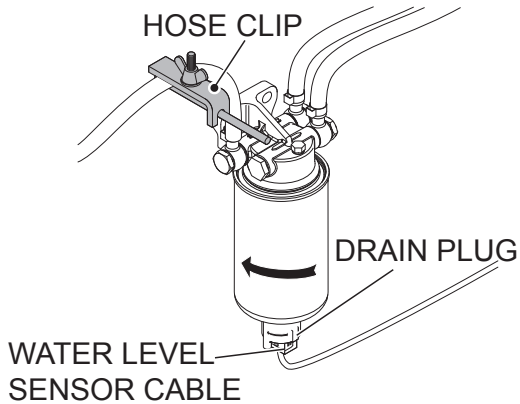

Figure 39. Fuel Prefilter
1. Block the fuel feed line with a hose clip (Figure 39) between the fuel tank and fuel prefilter.